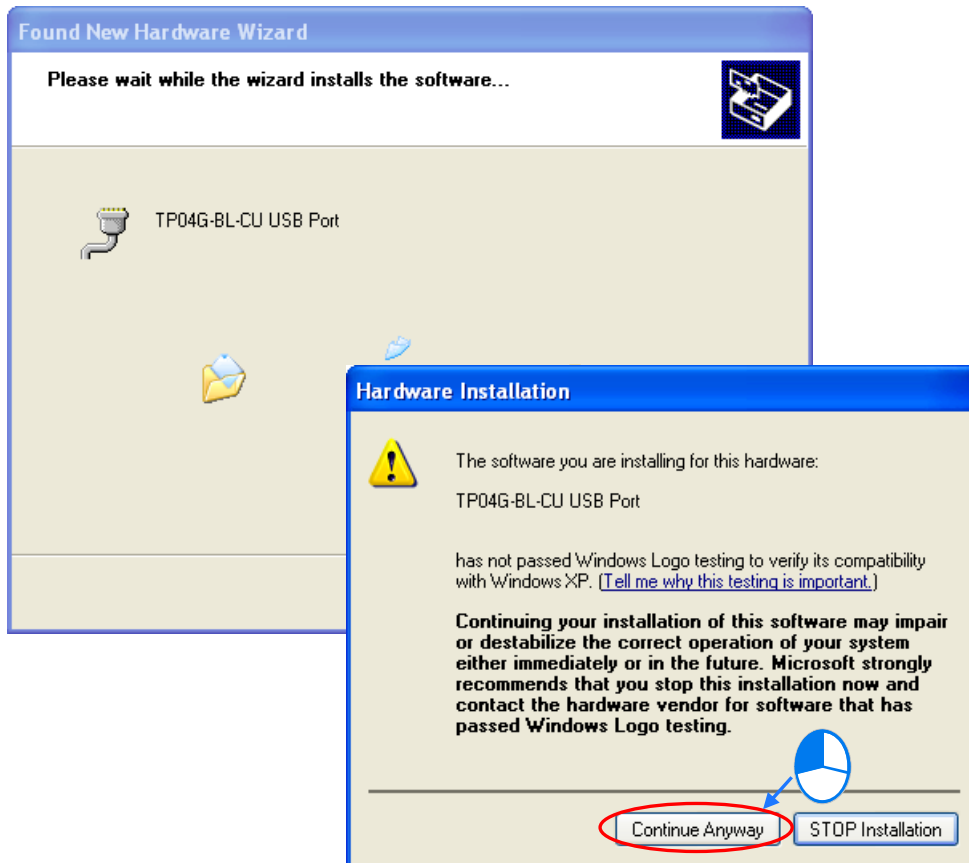

Figure B-4 Process of installing a USB driver
- B** (4) After the correct driver is found in the folder denoted by the path, the system will install the driver. If the **Hardware Installation** window appears during the installation, please click **Continue Anyway**, as shown in Figure B-4.